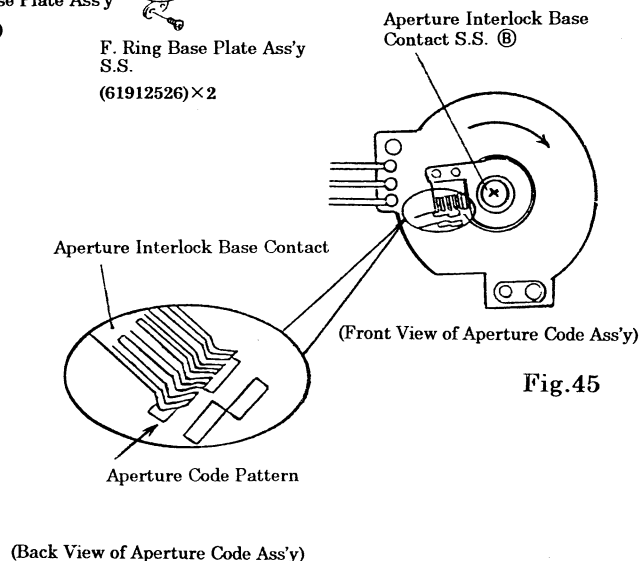

Fig.45
- 4) As a preliminary turning, turn the Aperture Interlock Base Contact of the Aperture Code Ass'y (1AAAB360) in the direction of the arrow. Then install the Mount Base so that the center of the round end of the Aperture Interlock Base Contact is placed on the second aperture code pattern. (See Fig. 45)
If it is dislocated, loosen the Aperture Interlock Base Contact Setscrew ② and adjust the position again. (See Fig. 45)